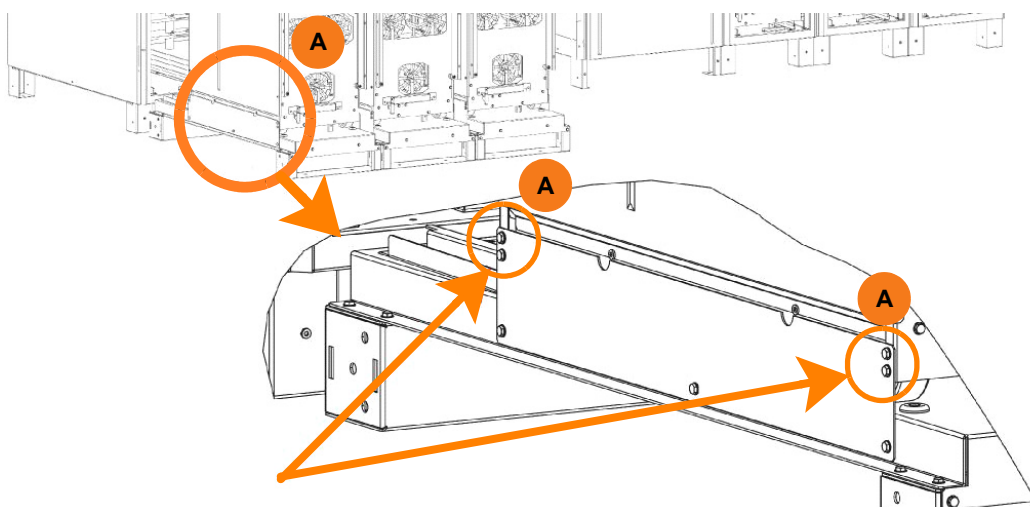

Figure 5.7 Module extraction slider securing screws
- f) Secure the UPS module to the module extraction slider using 4x self threading screws (M5 x 12 mm) on each side, as shown in Figure 5.7 (A), then move the slider + module clear of the cabinet using a pallet trolley.
- b) When the extraction slider is aligned with the module frame remove the 4x self threading screws (M5 x 12 mm) securing the UPS module to the each side of the slider – Figure 5.7 (A).